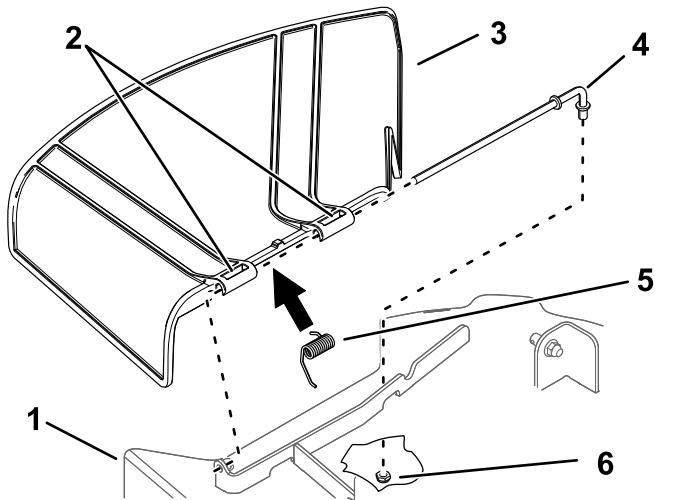

Figure 75
7. Slide the rod through the second grass-deflector bracket (Figure 75).
9. Secure the rear end of the rod into the mower with a nut ($3/8$ inch) as shown in Figure 75.
1. Remove the nut ($3/8$ inch) from the rod under the mower (Figure 75).
2. Slide the rod out of the short stand-off, spring, and grass deflector (Figure 75).
4. Replace the grass deflector (Figure 75).